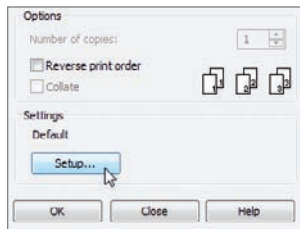

FIGURE 14.34 Clicking the Setup button
10. In the lower-right corner, you will see a Settings area. Click the Setup button, as shown in Figure 14.34.